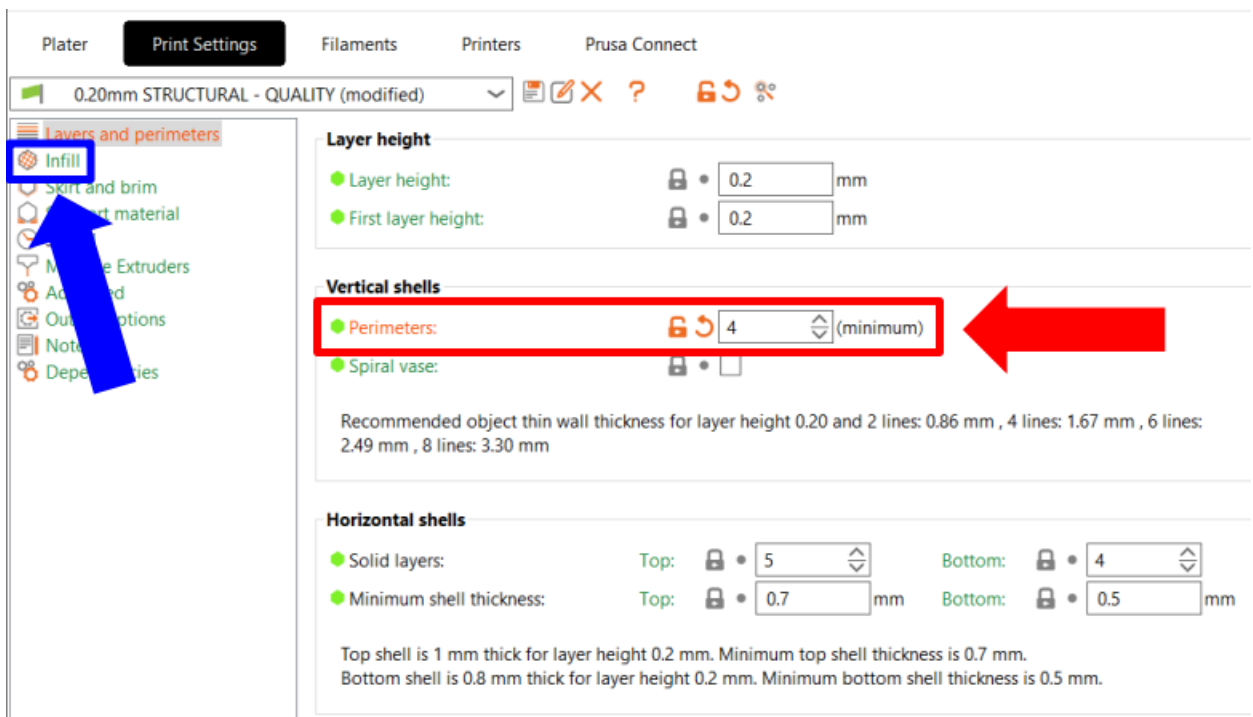

Figure 2. Adjusted Perimeter Settings
- 3.) Go to the “Print Settings” tab in the top left corner of PrusaSlicer and change the number of perimeters to 4 (see red arrow in Figure 2). Then double-click on the “Infill” subtab (see blue arrow in Figure 2).